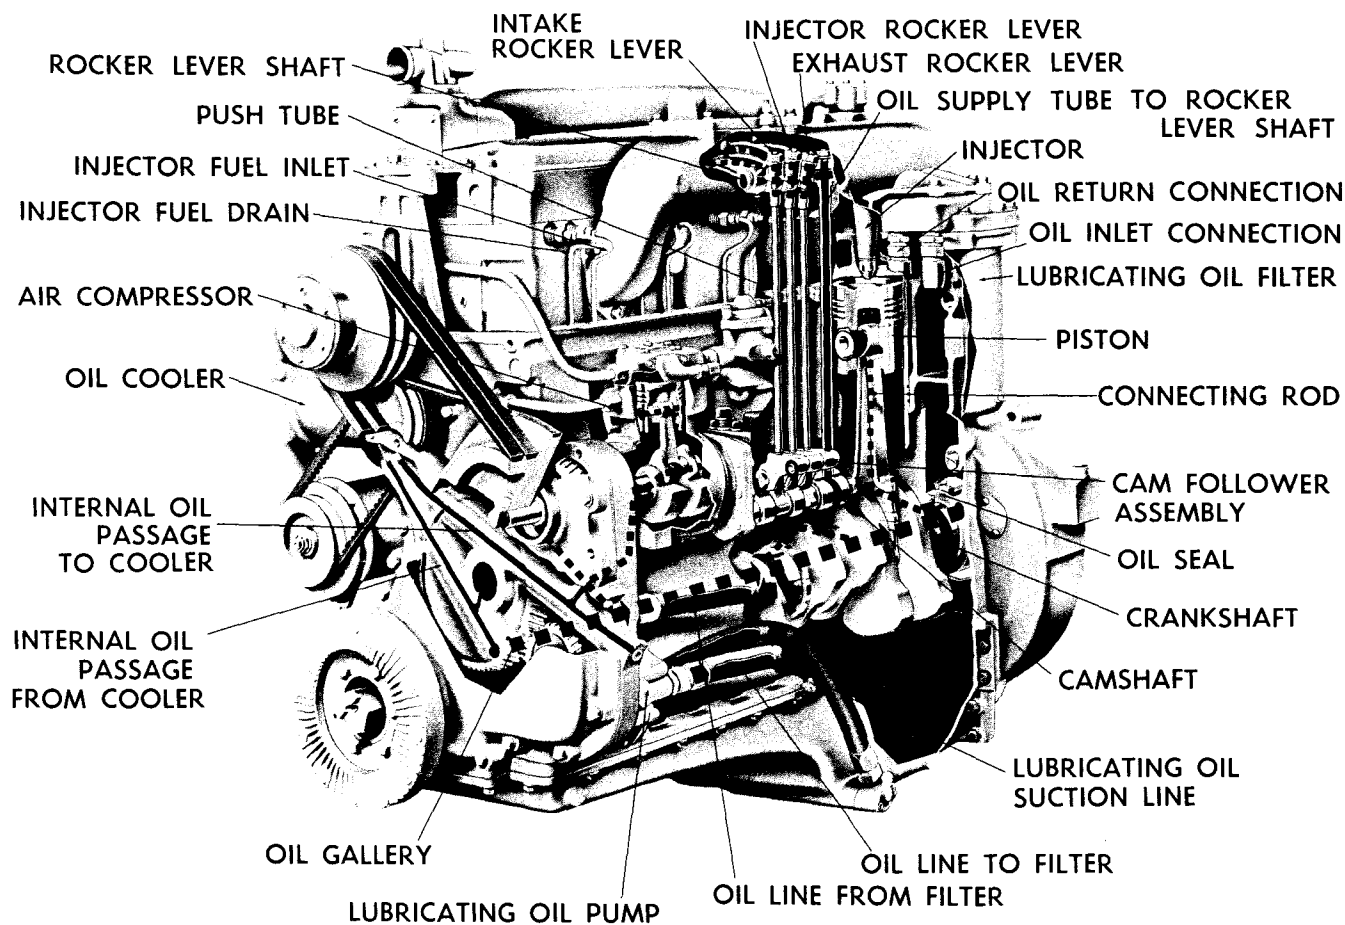

Fig. 1-16. Lubricating oil flow
3. On IOL engines, Fig. 1-16, the filtered oil then flows from the pump connection to the oil cooler and from the cooler back to the oil header through internal drillings in the gear case. On EOL engines, oil flow from pump-to-cooler-to-oil header is accomplished by external lines.